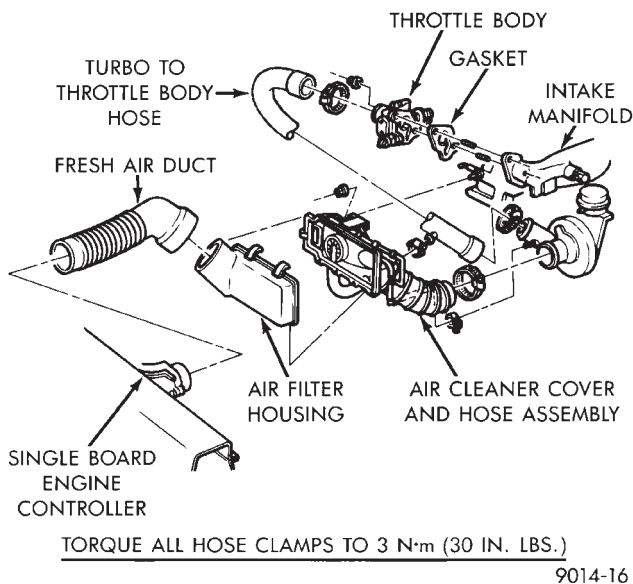

Fig. 5 Air Cleaner and Throttle Body Assembly—Turbo I Engine
- (1) Perform fuel system pressure release procedure **before attempting any repairs.**
- (2) Disconnect negative battery cable. Drain cooling system. See Cooling System, Group 7.
- (3) Remove air cleaner hose clamp to throttle body and remove air cleaner assembly (Fig. 5).